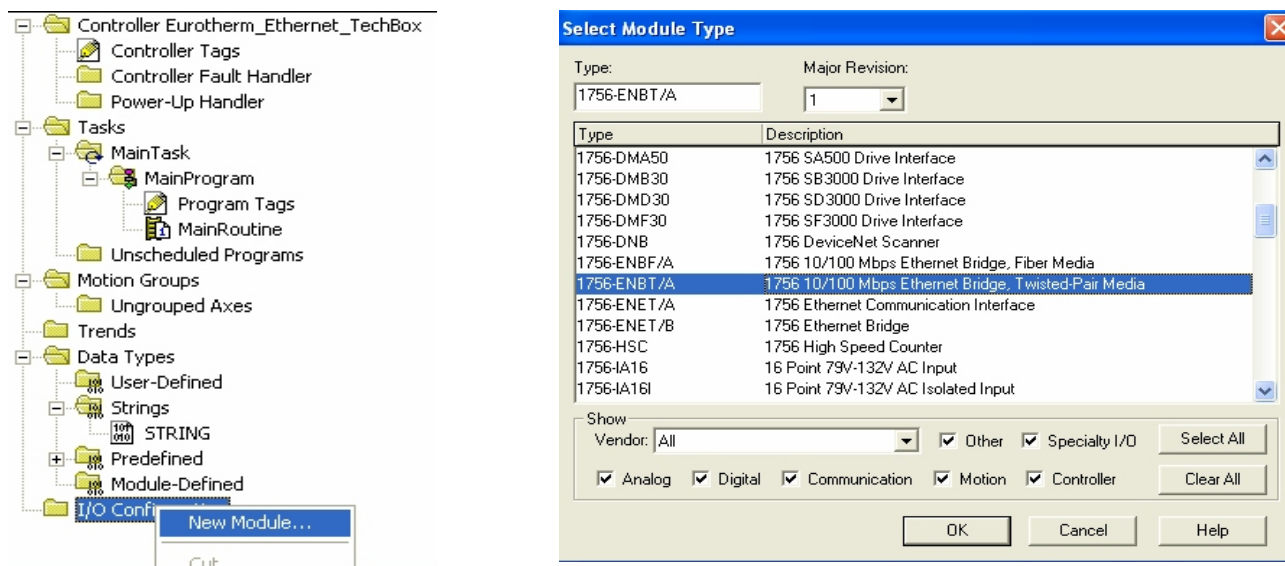

Figure 9. Ethernet Interface Selection
12. Using the I/O Configuration insert the Ethernet interface that will be installed. Right click on the I/O Configuration, select New Module. Our example uses 1756-ENBT/A. Input the desired IP address and slot in the PLC. Refer to Figures 9 and 10.